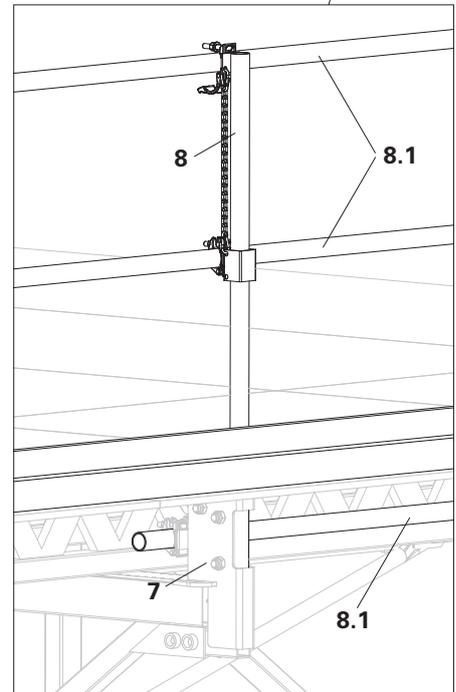

Fig. A2.20.1
1. Insert Guardrail Post STP (8) into the Crane Eye Adaptor STA (7).
3. Fix toe board. (Fig. A2.20.1)